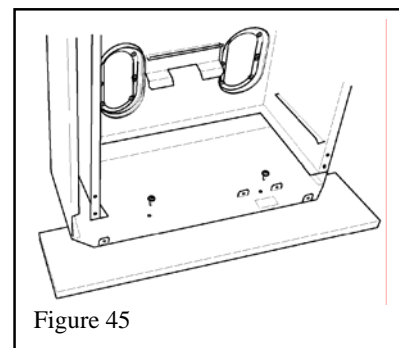

Figure 45
3. Fit the front plinth under the appliance front with two thread forming screws – See figure 45.